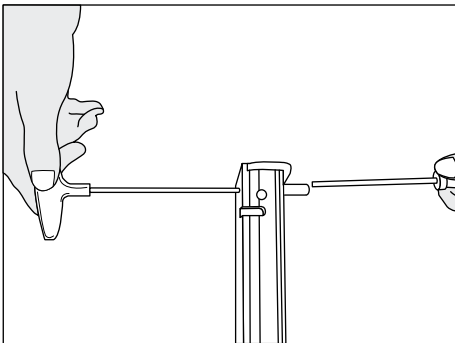

Figure 24
5. Loosen the screw and nut with a 2.5 mm Allen wrench and 7 mm socket wrench. (See Figure 24)